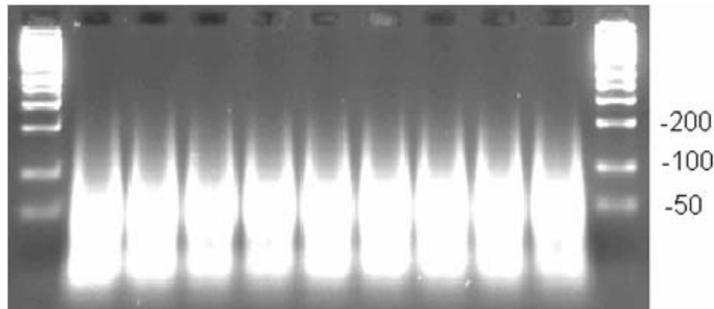

Figure 4.15 Typical example of fragmented PCR products run on 4% TBE agarose gel at 120V for 30 min to 1 hour. Average fragment size is < 180 bp.
4. Inspect the gel and compare it against the example shown in Figure 4.15 below.